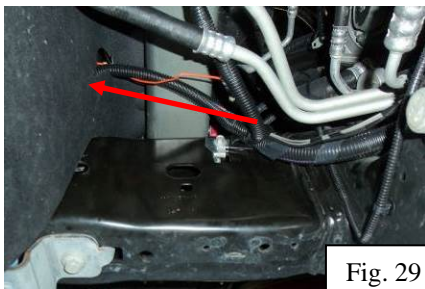

Fig. 29
23. Route the orange wire through the hole in the rubber air deflector towards the coolant pump (Fig. 29). The orange wire may have to be removed from part of the wire loom in order to reach the coolant pump. Cut the power wire (white and green wire) approximately 3" from the pump connector (Fig. 30). Insert the two ends of the power wire from the coolant pump and the orange wire into the clear 3M Scotchlock 3-way splice connector supplied (Fig. 31). Note: It is not necessary to strip the wires, and the order of the wires inserted does not matter. Once the button is depressed, the connector is difficult to reuse. Be sure the wires are inserted completely. Using slip joint pliers (or similar tool) press the button down into the connector until the button locks. The connector is filled with EG-3 sealant. Just wipe off any excess with a rag. You may wrap the connection with electrical tape, although it is not necessary. Zip tie the wires and connector to the wire loom.